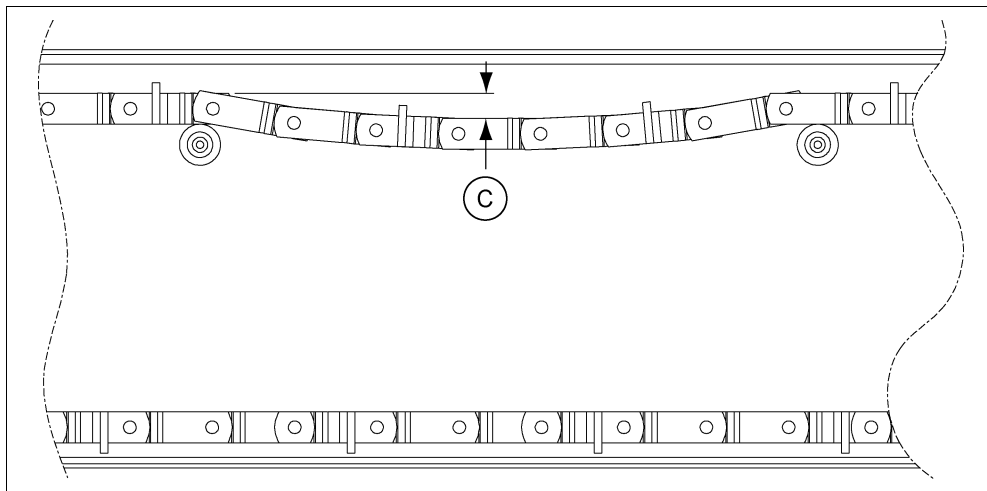

Figure 4J
Tighten the drag chain assembly using the take-up screws located on each side of the tail section or on the take-up head. On conveyors with roller returns, the chain is at the proper tension when a maximum of 1/2" deflection occurs at a point midway between the rollers. (See Figure 4J.) On conveyors with slide rail returns, the chain should be able to be lifted slightly when sufficiently tightened. After the chain is tight, check that the head and tail shafts are square to the box sides. If the shafts are not square, loosen the tighter of the two (2) adjuster screws until the shafts are square. Lock the adjuster screws by tightening the hex nuts against the cross-ways "C" channel.